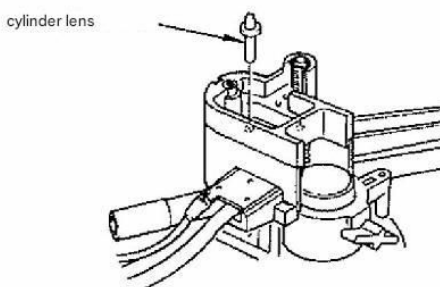

Fig. 13
- ② Remove the cylinder lens. The top and bottom have different shapes, so be careful when inserting it into the YSA-1. (Fig. 13)